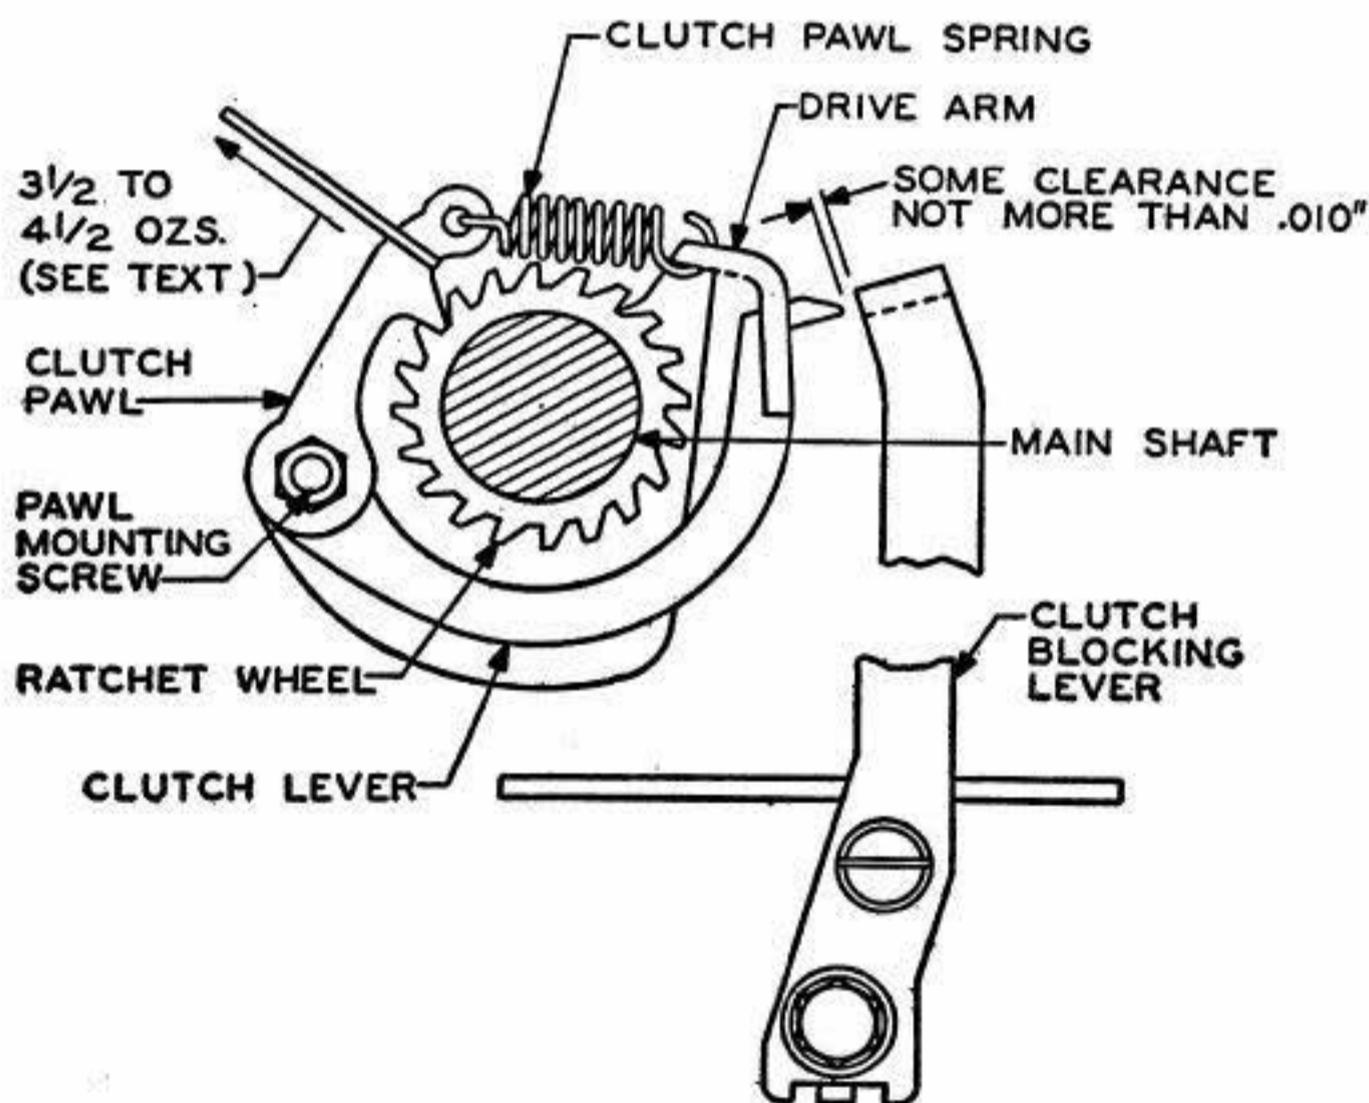

Fig 25
3.43 Clutch-Pawl Spring: It should require Min 3-1/2 oz, Max 4-1/2 oz, to start the pawl moving. **Fig 25**